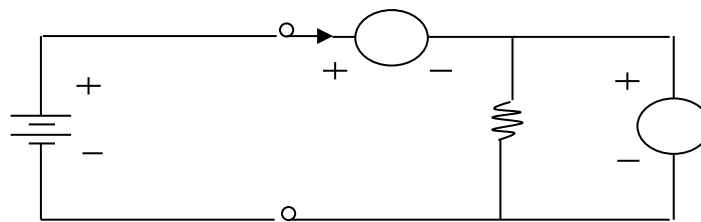

Figure 4 -1
1. Connect the circuit in Figure 4 -1 with $R = 1\text{ k}\Omega$.